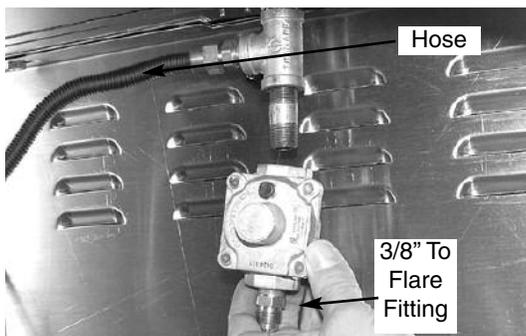

Fig 28
7. (** Note – pay attention to arrow on the NG regulator indicating direction of gas flow. The arrow should point up.) Attach the NG regulator to the nipple (See Fig. 28). **Remember to apply pipe dope!**